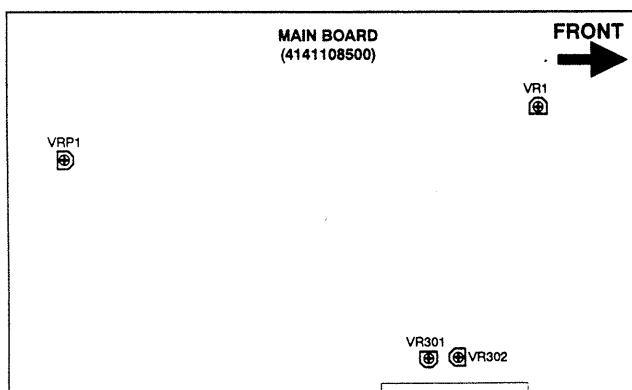

Figure4-1 Location of on Mainboard
1. Input a cross hatch pattern in 60.023kHz (1024 x 768) mode. Check that the 75V voltage is $75V \pm 0.1$. Adjust VR1 (see Figure4-1 for location) to correct if necessary.
2. Input a cross hatch pattern in 60.023kHz (1024 x 768) mode and adjust VRP1 on the mainboard (see Figure4-1 for approximate location) so the high voltage is in the range $26kV \pm 0.3$.